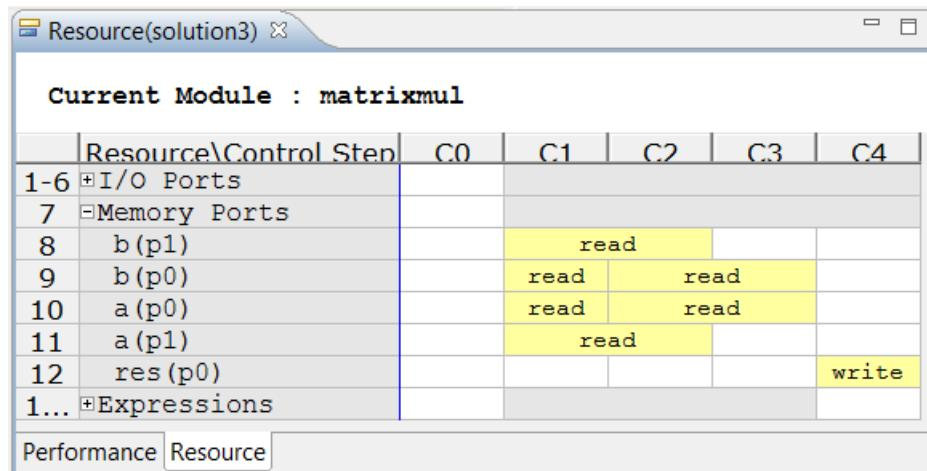

Figure 7-12: Matrixmul Pipeline Col Resource Sharing View
10. Expand the memories to see the view shown in Figure 7-12.
In Figure 7-12 the 2-cycle read operations in state C1 overlap with those starting in state C2 and so only a single cycle is visible; however, it is clear that this resource is used in multiple states.